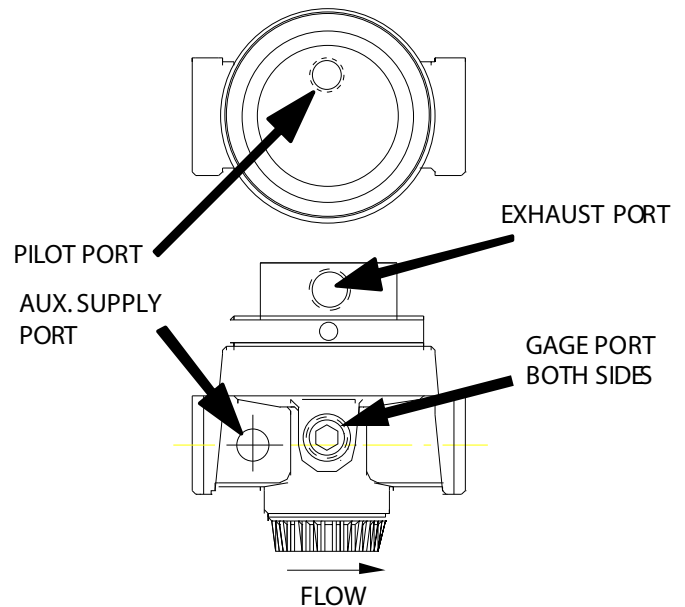

Figure 4
1. Connect primary air to the IN port (Figure 4) of the PSR.